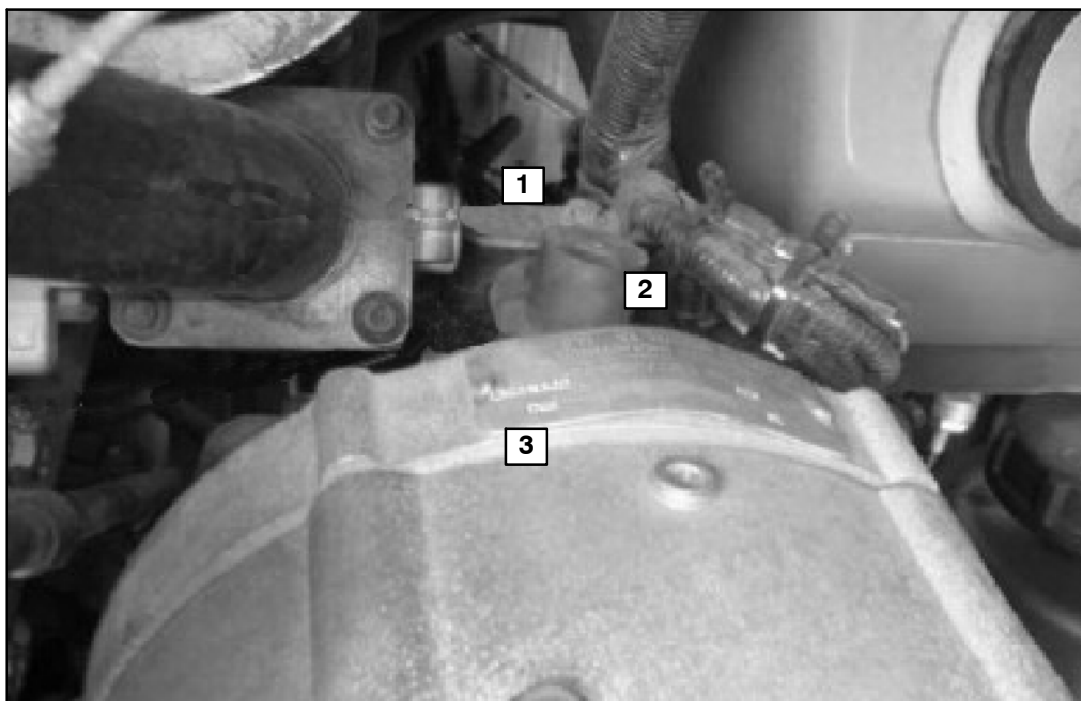

Figure 2.
5. Remove the red, rubber protective cap from the B+ (power) stud (refer to Figure 2).
6. Remove and retain the cable clamp to be re-installed at a later step in this procedure (refer to Figure 2).